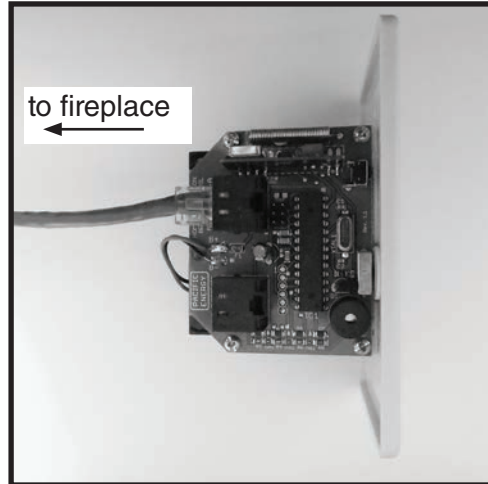

Figure 28: Wall switch - interface side.
8. Attach one end of the wall switch control cable to the wall control (Figure 28), and the other end to the interface board (Figure 26).